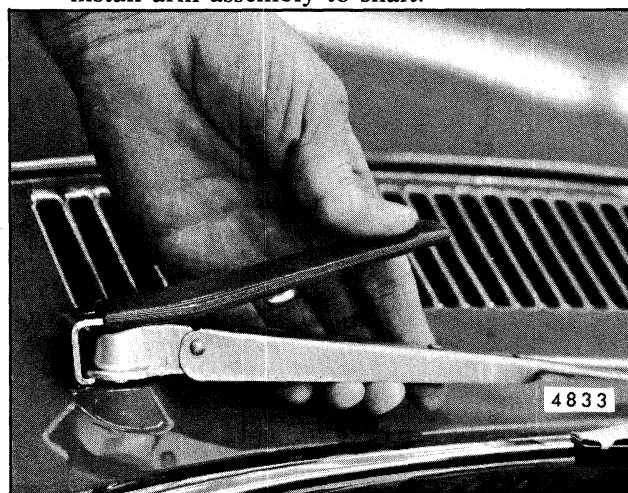

Fig. 2-34-Wiper Arm Removal Tool J-8966 (Or Equivalent)
2. On "A and F" styles use tool J-8966 or equivalent (Fig. 2-34), and lift arms off transmission